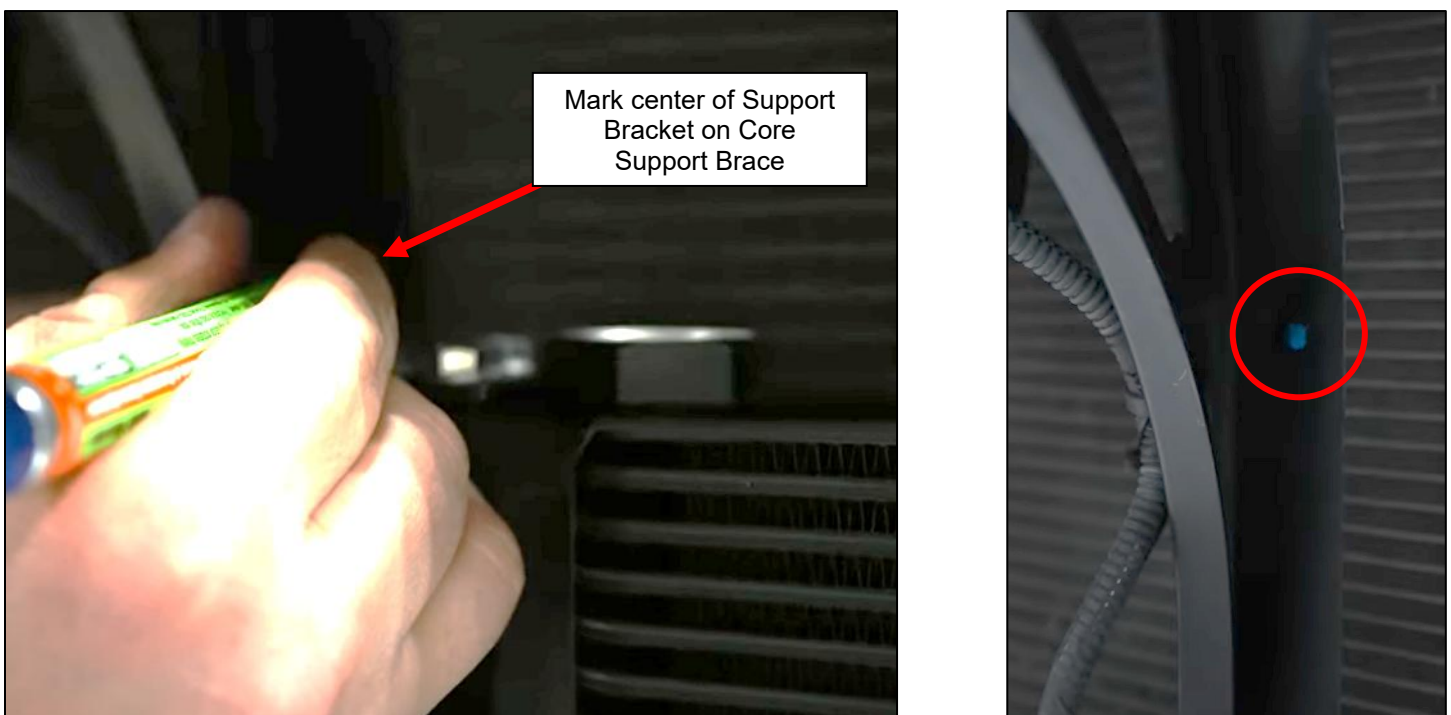

Figure 11
17. With the Cooler in place, mark the location of the hole on the Support Bracket on the Center Core Support Brace. *Figure 11.*